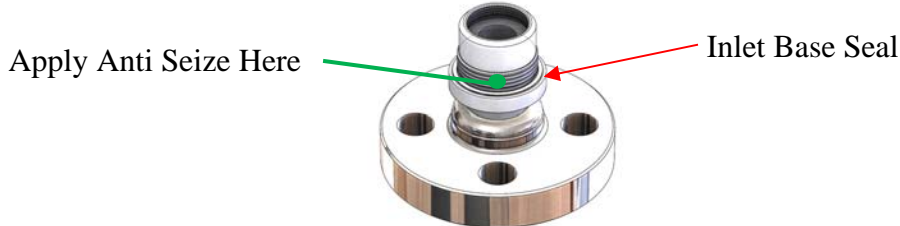

Figure 53: Bottom Entry Inlet Base
27. Place the base seal onto the inlet base. See Figure 53.
28. Put a small amount of anti-seize on the threads of the inlet base that get screwed into the body. See Figure 53.